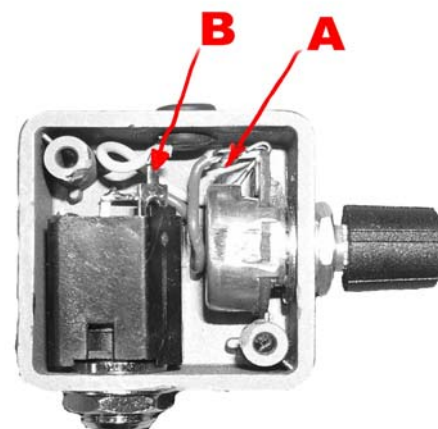

Figure 3
- 3) Shielded cables are normally comprised of 2 conductors: the first conductor just under the outer insulation is the ground (-) of the pickup. The ground wire is to be soldered to 'Lug B' of the jack. The second conductor is contained within an inner insulated covering and is the positive (+) of the pickup. This wire is to be soldered to the upper lug of the volume control pot 'Lug A' on Pro Models as shown in *figure 3*.